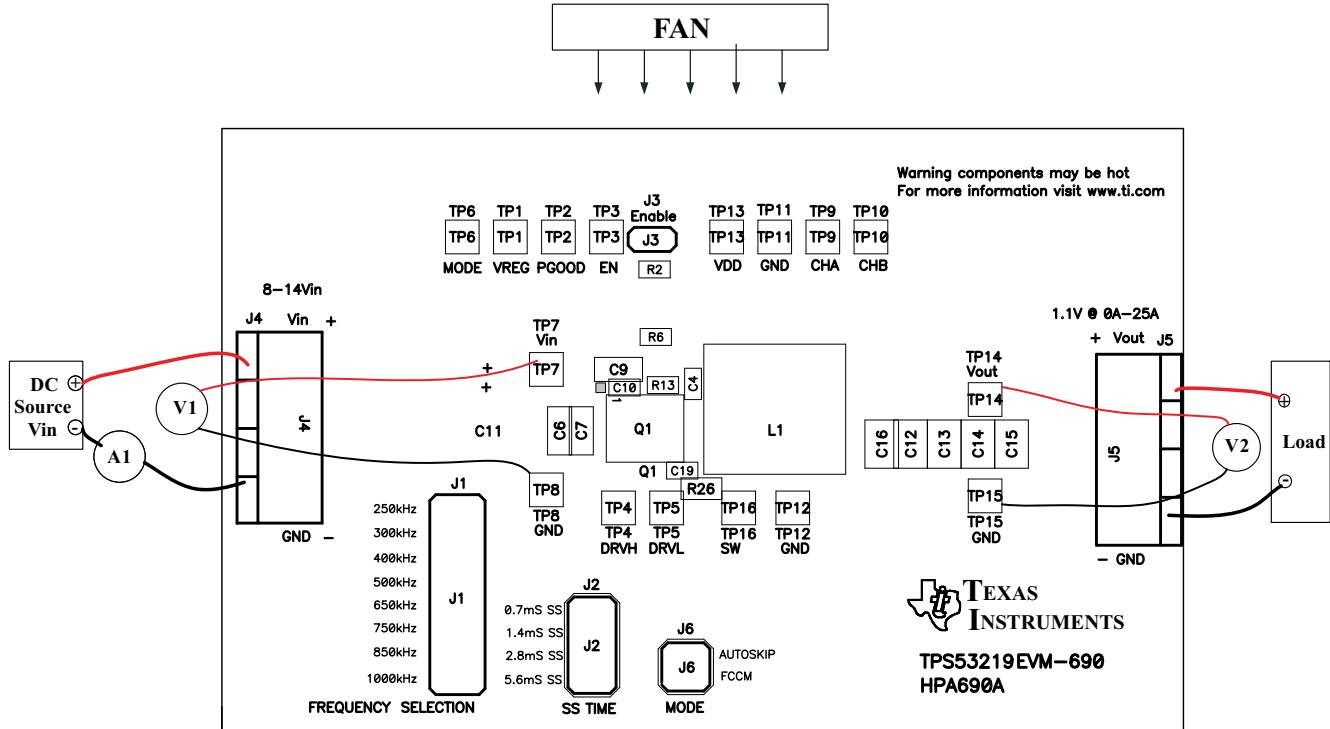

Figure 4-2. TPS53219EVM-690 Recommended Test Setup
Voltage Source: The input voltage source V_{IN} must be a 0-V to 14-V variable DC source capable of supplying 10 A_{DC} . Connect V_{IN} to J4 as shown in Figure 4-2.
Figure 4-2 is the recommended test setup to evaluate the TPS53219EVM-690. Working at an ESD workstation, make sure that any wrist straps, bootstraps, or mats are connected referencing the user to earth ground before power is applied to the EVM.
1. Prior to connecting the DC input source V_{IN} , it is advisable to limit the source current from V_{IN} to 10-A maximum. Ensure that V_{IN} is initially set to 0 V and connected as shown in Figure 4-2.
Place a fan as shown in Figure 4-2 and turn on, ensuring that air is flowing across the EVM.
1. Set up EVM as described in Section 4 and Figure 4-2.